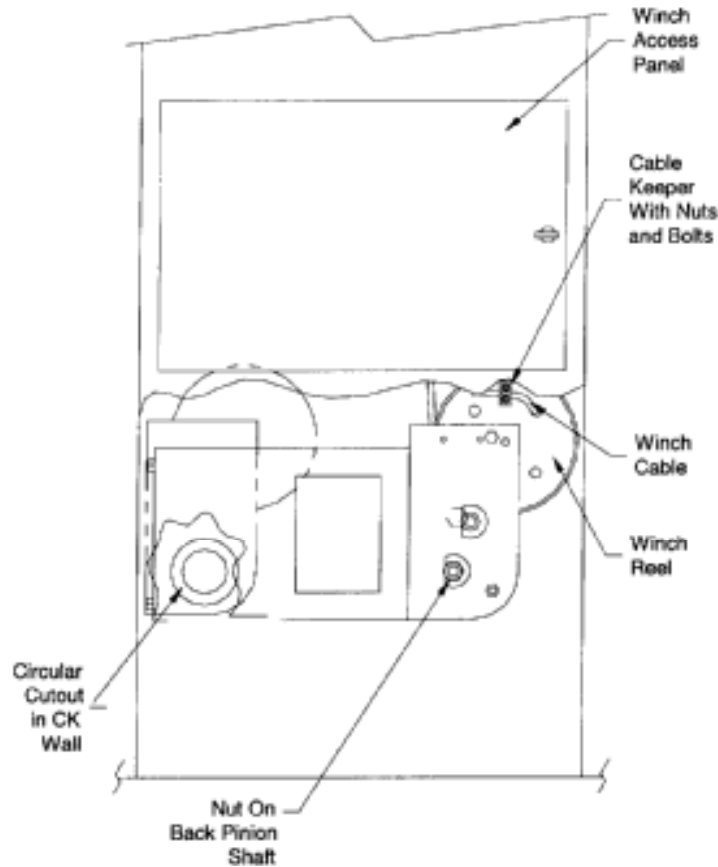

Figure 3. Preparation Side CK Winch Installed/Cable
5. Place the winch assembly on the CK floor. Remove winch handle, winch socket, and winch socket hex screw and retain for installation of the replacement winch. Use a 7/16" socket on the hex head screw, while securing the pinion shaft to hold it steady (refer to Figure 3). Twist off the winch socket and retain for installation on the new winch assembly.
6. Refer to Figure 3. Manually unwind the cable completely from the reel and expose the hex nuts. Remove the two hex nuts from the cable keeper that secures the winch cable to the outside of the reel. Retain nuts, carriage bolts and cable keeper. Pull the winch cable from the winch reel and place cable on the floor of the CK. Do not allow the cable to become tangled or kinked.